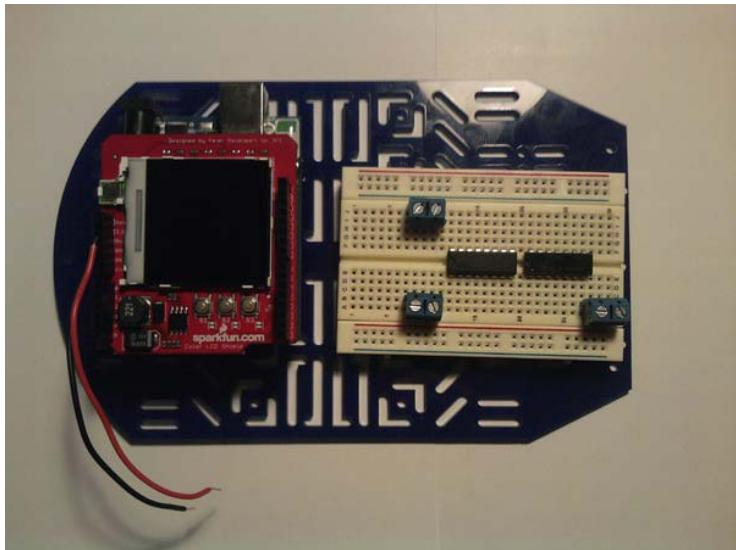

Figure 4-18. The three connected terminal blocks
4. Add the Vss, Vs, and the ground lines to the breadboard (Figure 4-18).